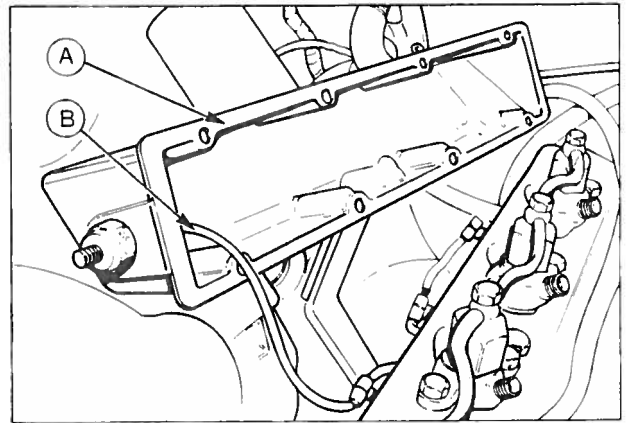

Fig. 49 Replacing inlet manifold
41. Clean the inlet manifold gasket mating surfaces and place a new gasket in position. On glow plug head engines, connect the glow plug loom to the inlet manifold – see Fig. 49. New lock nuts must be used to secure the glow plug loom.